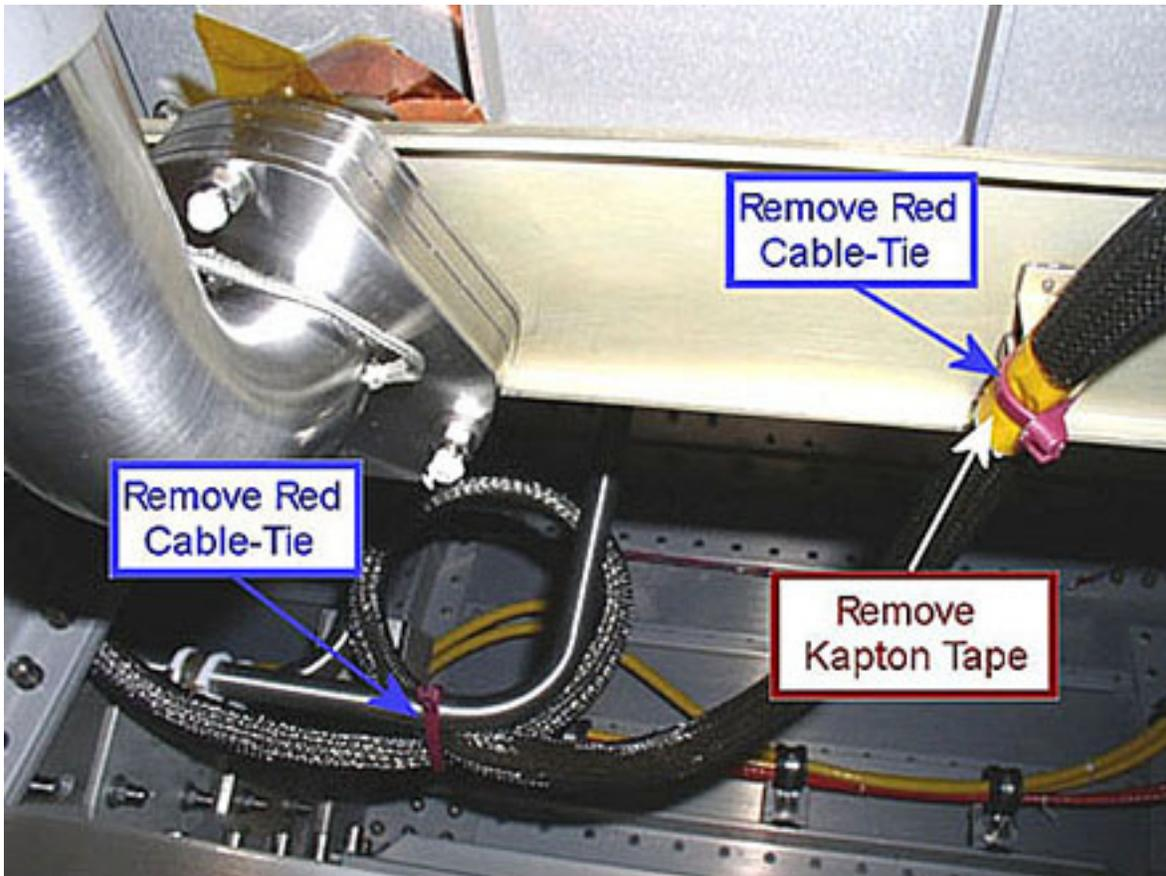

Figure 12. MVIS Umbilical
- CM1 Red Cable-Ties shown in Figure 12 → Remove (Wire Cutter)
- Kapton Tape shown in Figure 12 → Peel off (by hand).
- Take a picture of FSL rear zones shown in Figure 12 after completion of Umbilicals reconfiguration.